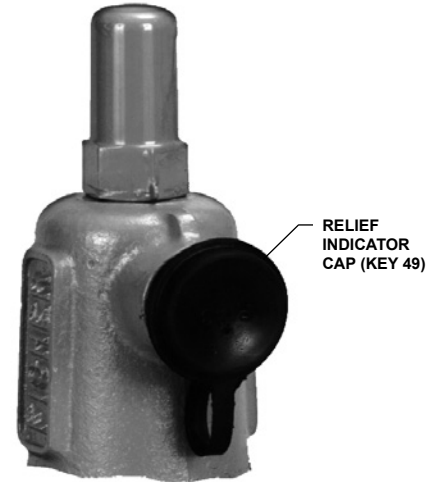

Figure 4. Relief Indicator
The vent assembly is equipped with a relief indicator (key 49, Figure 4). The cap for the relief indicator snaps over the vent assembly opening. If the relief valve opens wide, exhaust gas pops the cap off the screen vent assembly opening indicating a problem with the regulator. If the cap pops off, refer to the shutdown and to the Body Area Maintenance Procedures to inspect the disk assembly and orifice.